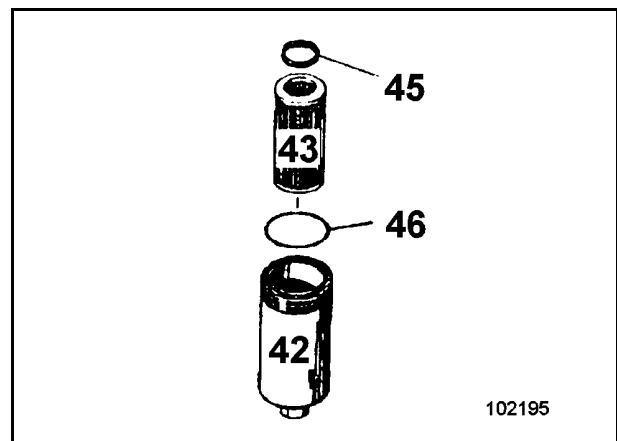

Fig. 3-144:
- Unscrew filter housing (42, Fig. 3-144:).
- Withdraw filter element (43) from housing (42).
- Insert filter element into housing (42) and attach to the filter head with a new, slightly oiled sealing ring (46).